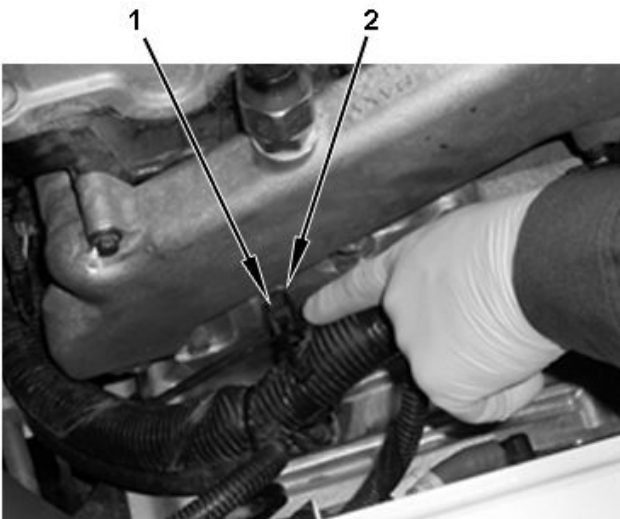

Figure 4. Engine Harness Guide.
6. Remove engine harness guide (Figure 4, Item 1) from bolt (Figure 4, Item 2).